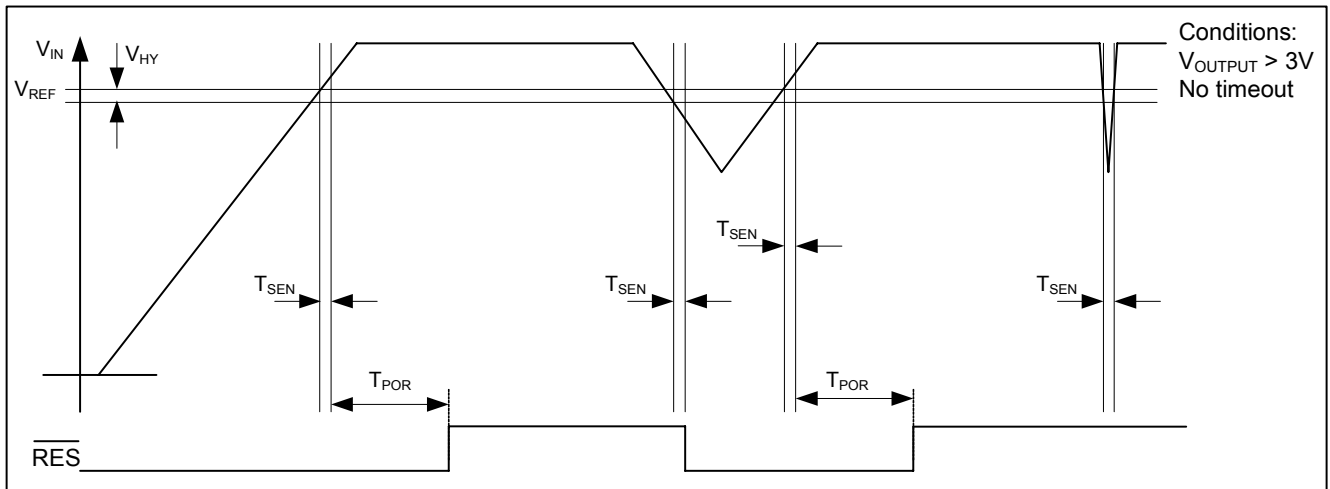

Fig. 5
- Note 6:** the comparator reference is the power-down reset threshold. The power-on reset threshold equals the comparator reference voltage plus the comparator hysteresis (see Fig. 5).
At power-up the reset output ( $\overline{\text{RES}}$ ) is held low (see Fig. 5). When VIN becomes greater than VREF, the  $\overline{\text{RES}}$  output is held low for an additional power-on-reset (POR) delay TPOR (defined with the external resistor connected at ROSC pin). The TPOR delay prevents repeated toggling of  $\overline{\text{RES}}$  even if VDD voltage drops out and recovers. The TPOR delay allows the microprocessor's crystal oscillator time to start and stabilize and ensures correct recognition of the reset signal to the microprocessor.